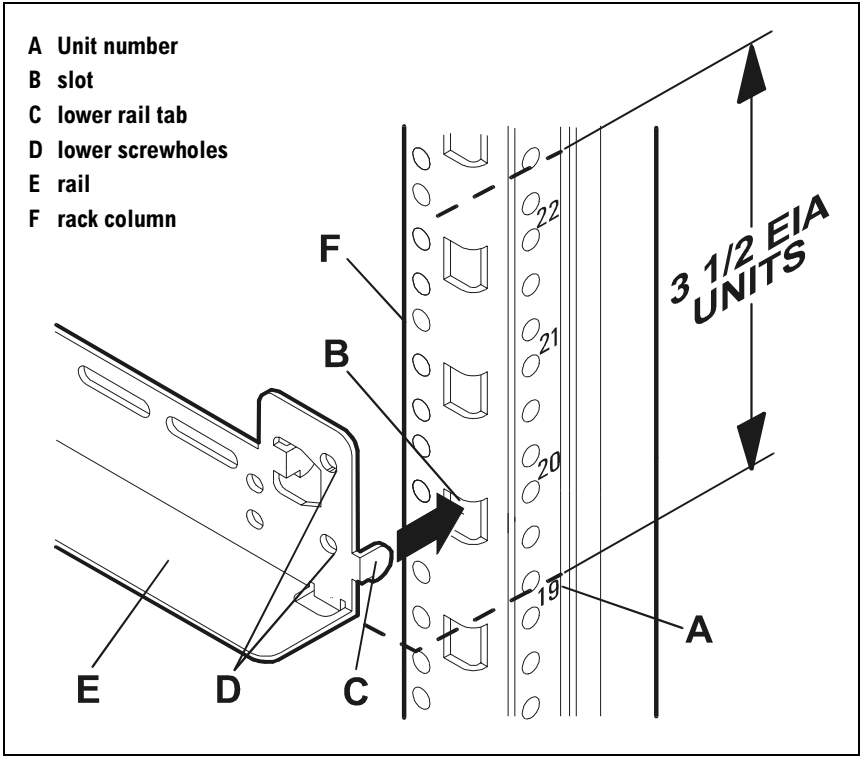

Figure 19 Unit Rail Position
- If the bottom of the selected rack space falls at the Unit number, insert the lower rail tabs (C in Figure 19) in the adjacent slot (B).